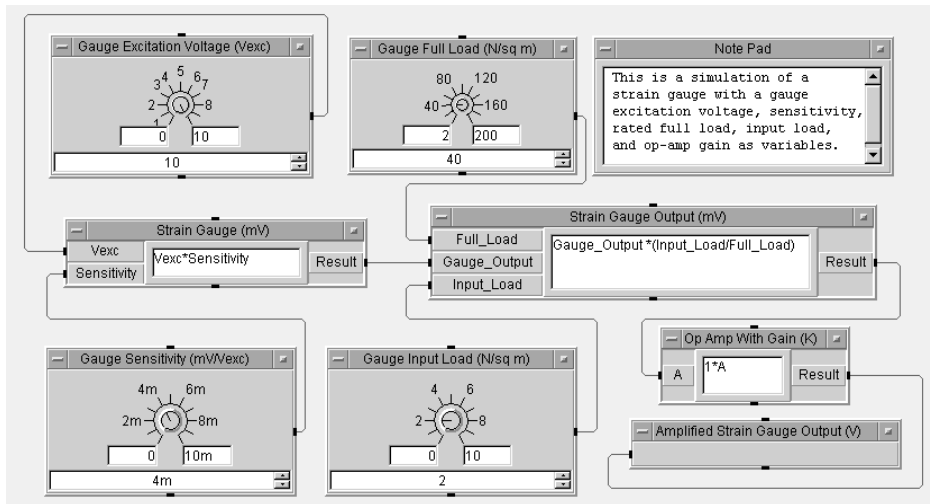

Figure 12.4. Strain Gauge simulation; total construction
19. Select Menu Bar => Display => AlphaNumeric, place it below Op Amp. Change its name to Amplified Strain Gauge Output (V). Connect its input to the Op Amp output. Verify your Object positioning and connections using Figure 12.4.